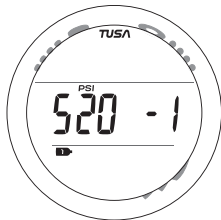

Fig. 101 - TRT SWITCHING
**TRT 1 Switch Preview\***, information includes (Fig. 101) -